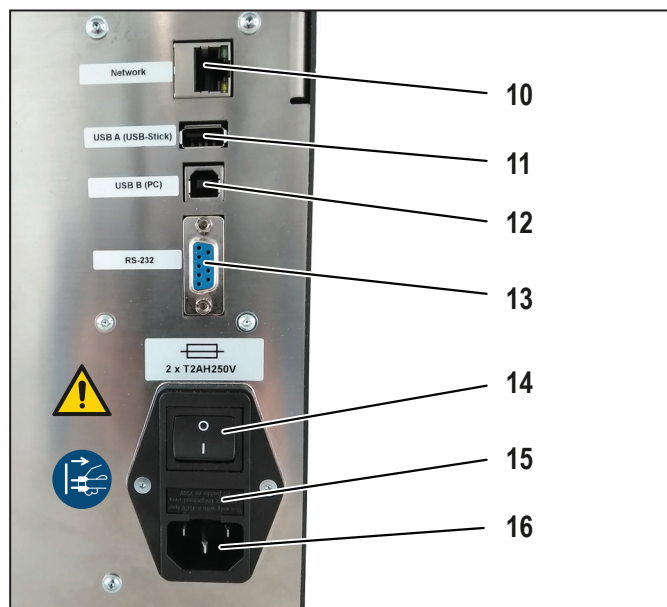

Figure 3.2 Rear view
- ▶ Insert the mains connection cable into the mains socket (Figure 3.2, 16) of the machine and connect it to the power supply.
- ▶ Connect the machine to a computer via a USB cable (Figure 3.2, 13).
- ▶ Connect the machine to a network via an Ethernet cable (Figure 3.2, 11).
► Switch on the machine (Figure 3.2, 14).